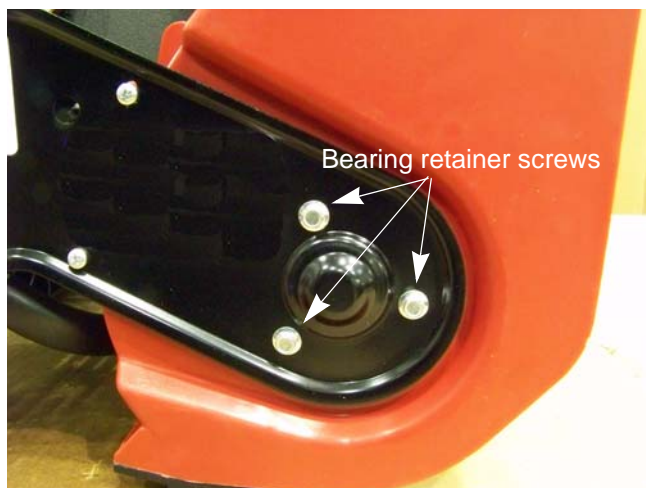

Figure 4.21
5. Remove the three bearing retainer screws using a 7mm wrench. See Figure 4.21.